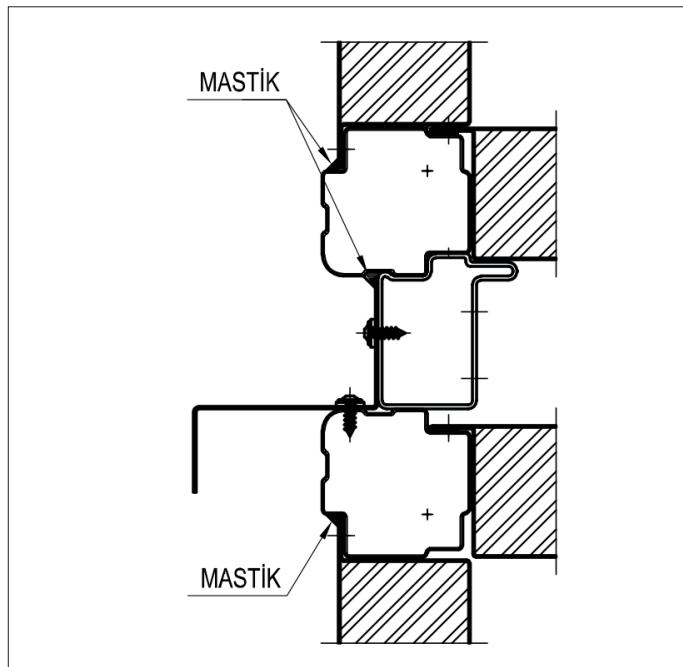

Fig. 32. Connection profile, at length direction, unit with intermediate base frame
- Direction 3: Cut the connection profiles to the correct length and mount them on the correct sides (See Fig. 32).